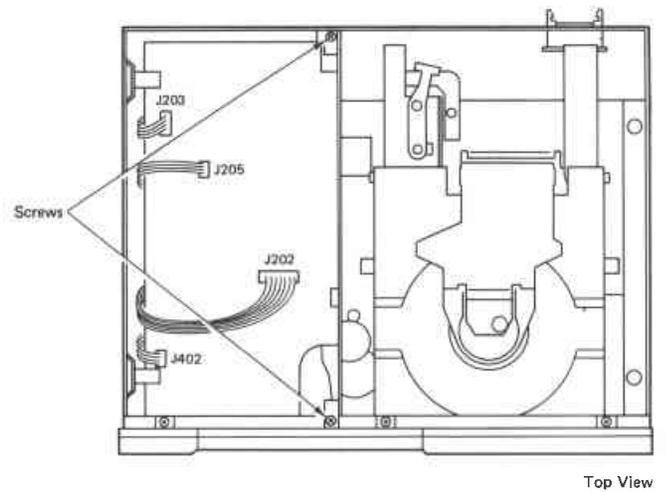

Fig. 3
- 1) Remove two screws fixing PCB PB-1 from the chassis. (Fig. 3)